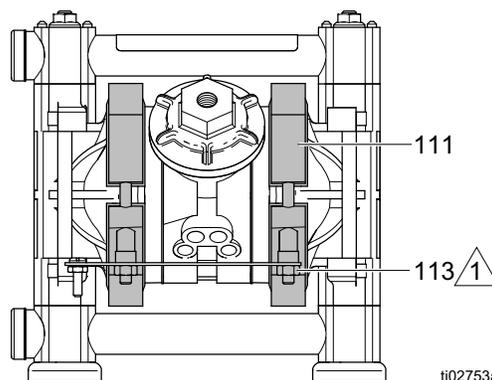

FIG. 9: Tightening the Clamps
When tightening the clamps (111), apply thread lubricant to the bolts and **be sure** to torque the nuts (113)—50 to 60 in-lb (5.6–6.8 N•m). See FIG. 9. See **Torque Sequence** on page 32.
2. Remove the manifolds (102) and disassemble the ball check valves as explained in **Ball Check Valves** on page 22. Always replace the O-rings (108) with new ones.
3. Using a 7/16 in. socket wrench, remove the clamp nuts (113) and the grounding strip (112). Loosen the clamps (111) and slip them over the housing (11). Pull the covers (101) off the pump, then remove the clamps from the housing. See the Detail in FIG. 9.
4. Using a 1/2 in. socket wrench on both outer diaphragm plates (103), unscrew one plate from the diaphragm shaft (23). Remove one diaphragm (401), inner diaphragm plate (118), and O-ring (404). Pull the opposite diaphragm assembly and the diaphragm shaft out of the pump housing (11). Use a 3/16 in. wrench to hold the shaft and unscrew the outer plate (103), then disassemble the remaining diaphragm assembly.
5. Inspect the diaphragm shaft (23) for wear or scratches. If it is damaged, replace.
6. Hook the shaft seals (122) with an O-ring pick and pull them out of the housing (1). Avoid scratching the bore.